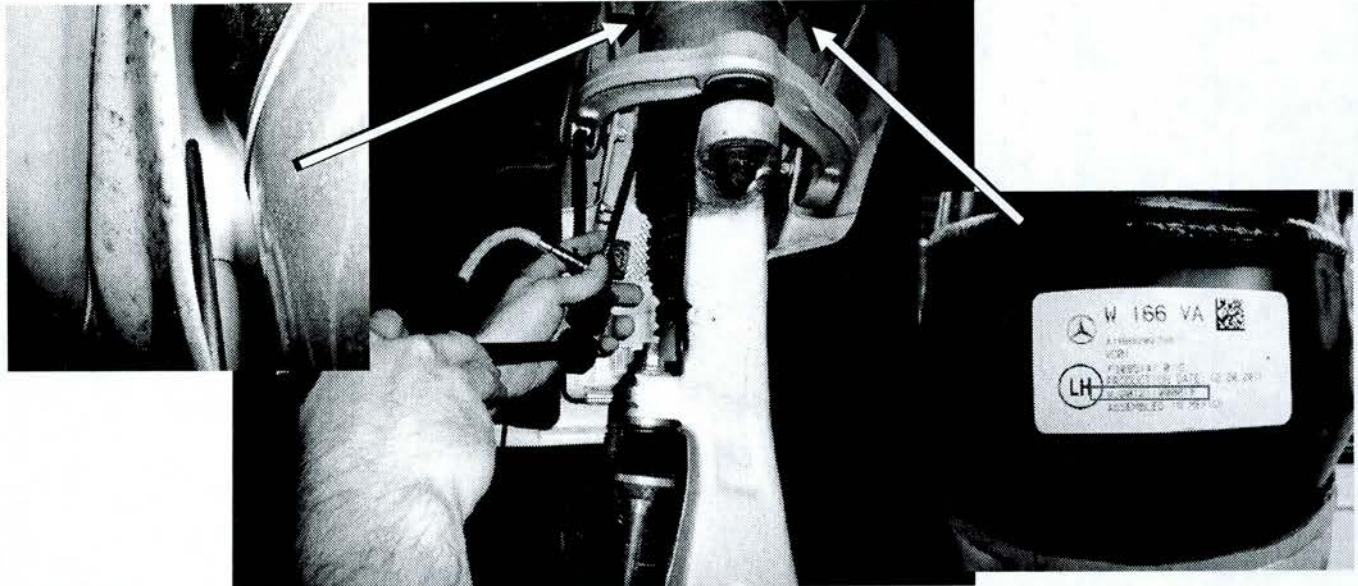

Figure 2
8. Read off production number on adhesive label of suspension strut (LH+RH) using endoscope (Figure 2).